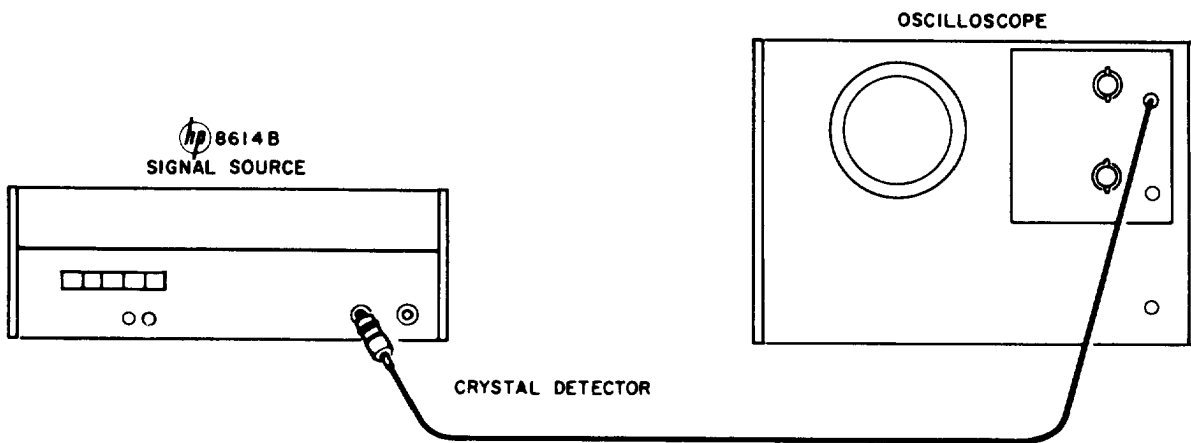

Figure 5-12. Square-Wave Modulation Adjust
- a. Connect instruments as shown in Figure 5-12.